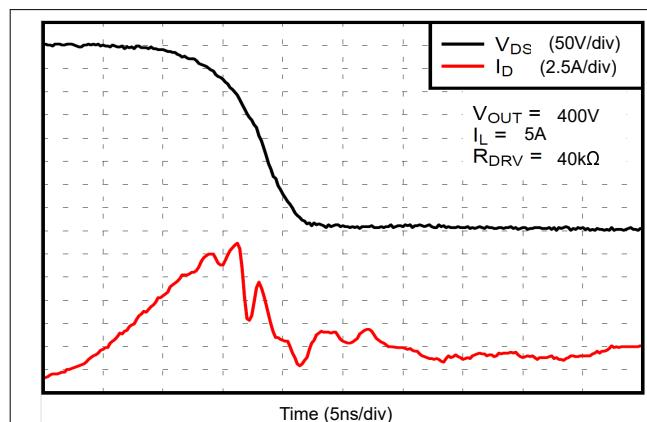
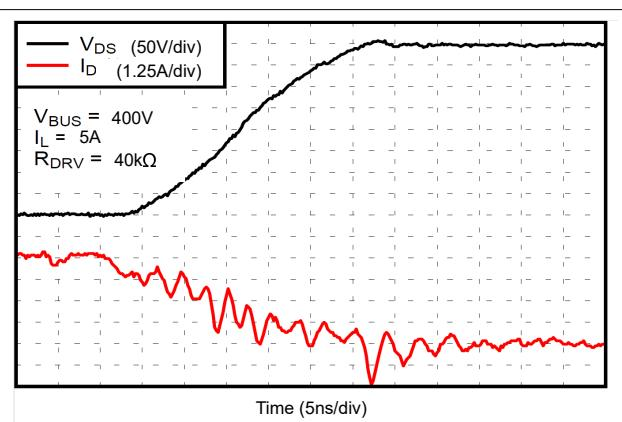

**Figure 8-3. Buck-Boost Efficiency vs Load When**
**Figure 8-4. Buck-Boost Efficiency vs Load When**
**Figure 8-3** and **Figure 8-4** show the buck-boost converter efficiency versus load current with different inductors and peak current modes. A minimum inductance value of  $3\mu\text{H}$  is preferred for the buck-boost converter so that the  $\text{di}/\text{dt}$  across the inductor is not too high. This leaves enough margin for the control loop to respond. As a result, the maximum  $\text{di}/\text{dt}$  of the inductor is limited to  $6\text{A}/\mu\text{s}$ . On the other hand, large inductance also limits the transient response for stable output voltage, and it is preferred to have inductors less than  $10\mu\text{H}$ .